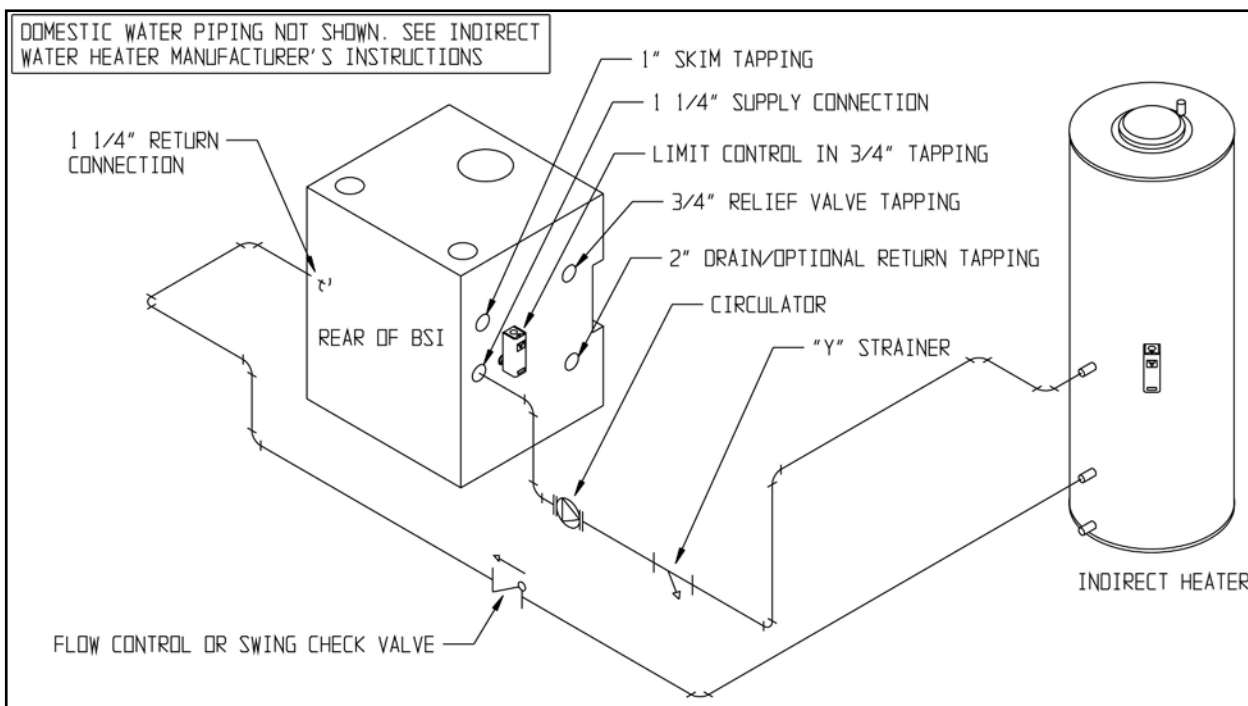
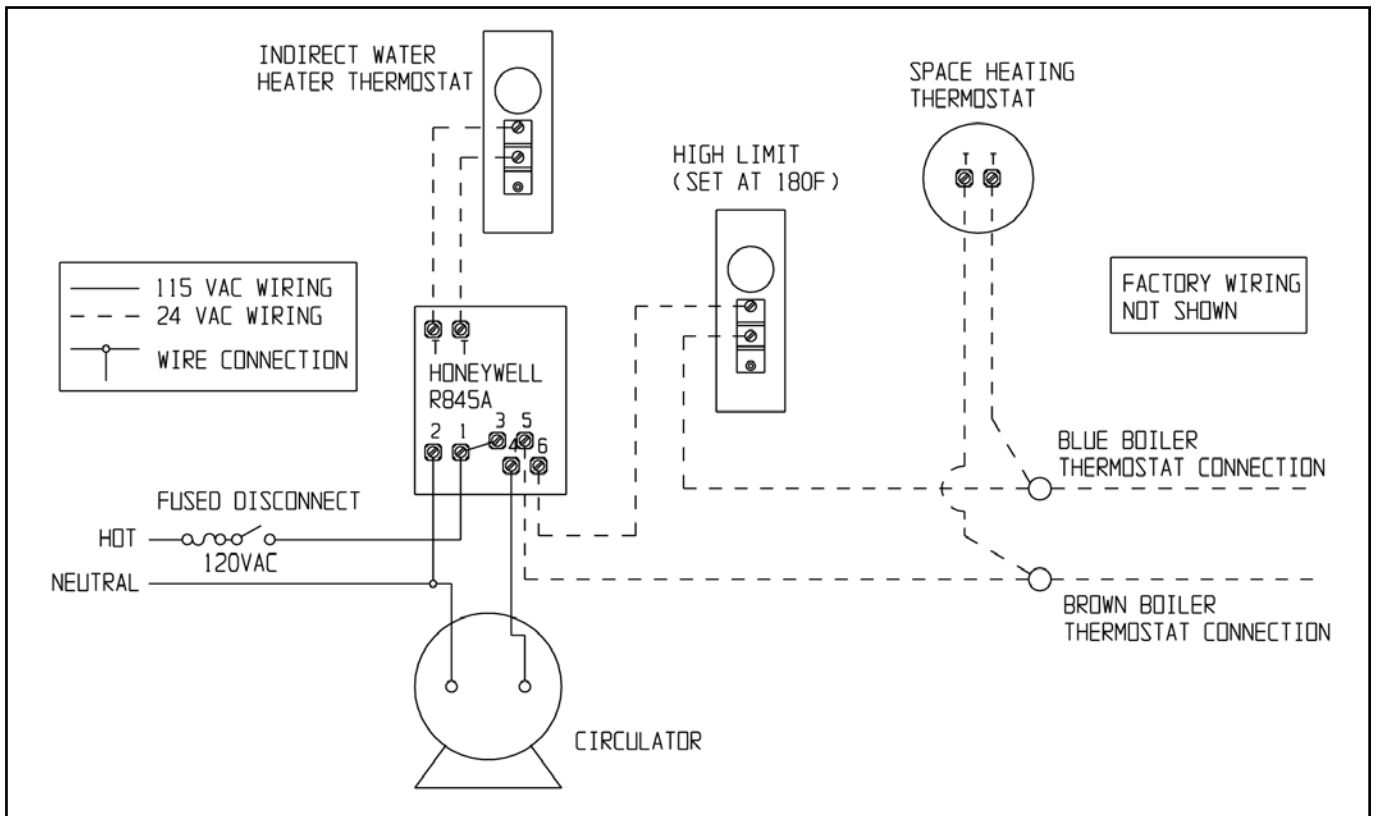

FIGURE 13: INDIRECT WATER HEATER BOILER-SIDE PIPING
FIGURE 15: WIRING INDIRECT WATER HEATER TO BOILER
- 1) Circulator - Mount the circulator as shown in Figure 13. The circulator should be located as low and as close to the boiler as practical. Do not install valves, or other devices having a significant pressure drop, between the boiler and the circulator inlet. All piping between the boiler and the circulator inlet should be 1", regardless of the size of the piping required in the rest of the system. See Figure 15 in Part X for wiring information.
- 4) Boiler Limit Control - Use a SPST break-on-rise temperature limit control such as the Honeywell L4006A. Do not set the limit above 180°F as doing so may cause the boiler to steam when there is no call for heat. See Figure 15 for wiring information.
Figure 15 shows field wiring for an indirect water heater. A Honeywell R845A or equivalent DPST relay and transformer is required. The high limit described in Part IX must also be supplied by the installer. A call for heat from the indirect water heater thermostat will energize the relay making both sets of contacts. One set of these contacts then energizes the circulator. The other set of contacts will make the “T” and “T” contacts on the burner primary control, firing the burner. If the boiler water temperature exceeds the high limit setting of 180°F, the high limit will open the “T”-“T” circuit and the burner will shut down.